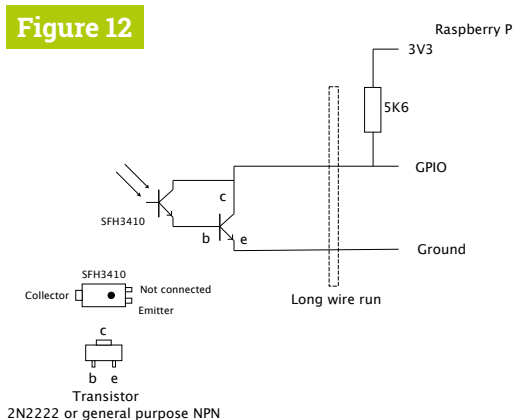

Figure 10
This uses ambient light to detect which way the switch is set. Draw in pencil around the switching lever in both positions, showing the area being covered and uncovered. Then drill a 2 mm hole in the middle of this area (Figure 10). Next, paint
- ▼ **Figure 10** Drilling the hole for the switch monitor